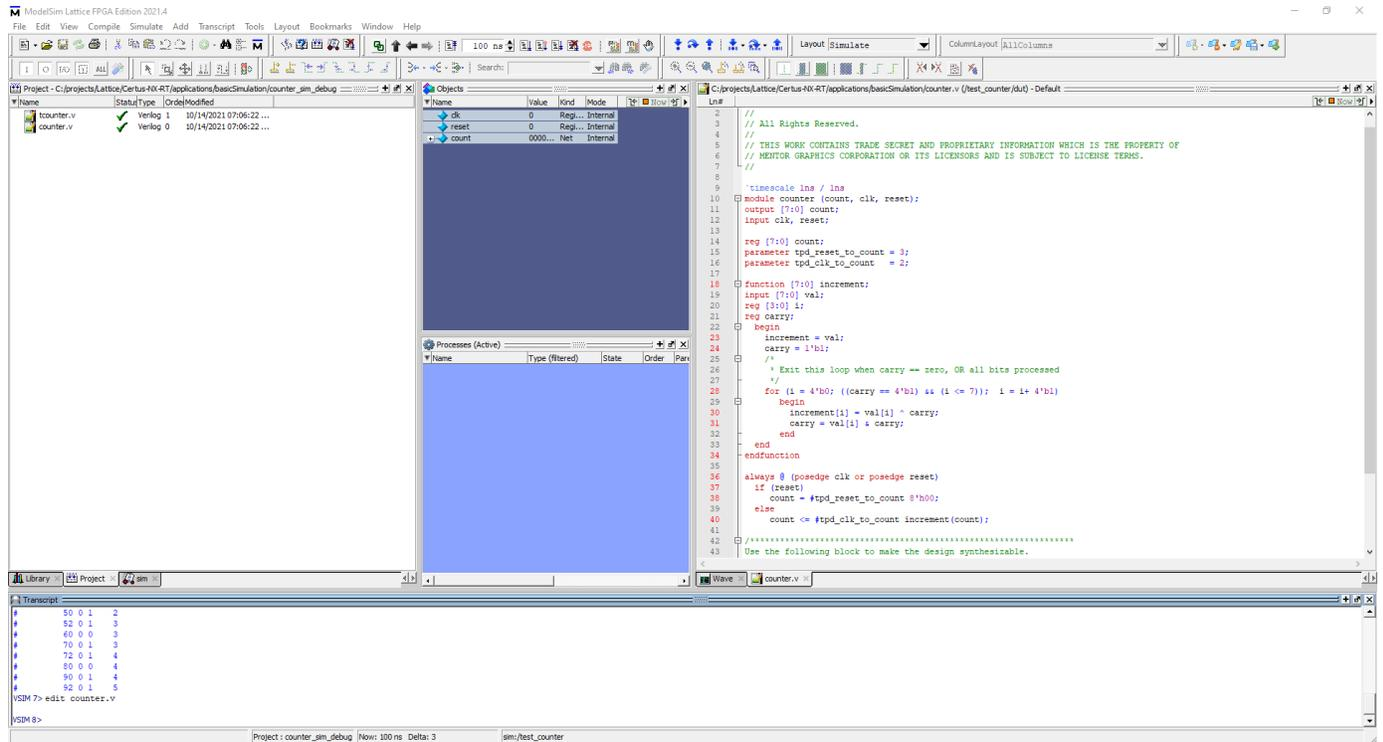

Figure 8: Debugging HDL Code
10. The **counter.v** file opens next to or over the **Wave** window, see **Figure 8**.